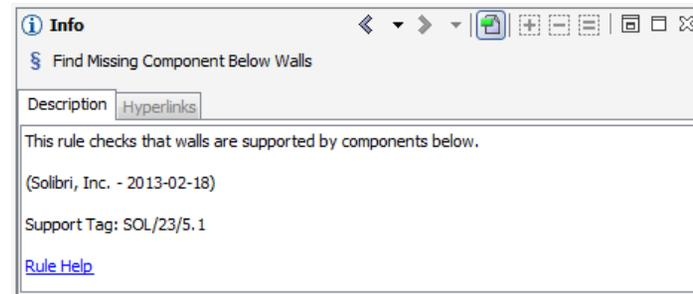

Figure 48 Info view
- (1) Make sure you have **Critical** 🚨, **Moderate** ⚠️, and **Low Severity** ⚠️ level issues visible.
- (2) Open the **Deficiency Detection** branch by clicking the small + sign next to the Ruleset name in the **Checking Tree Table**.
- (3) Select the *Find Missing Components Below Walls* rule.
- (4) **Info View** will inform you about the nature of the rule (see Figure 48).